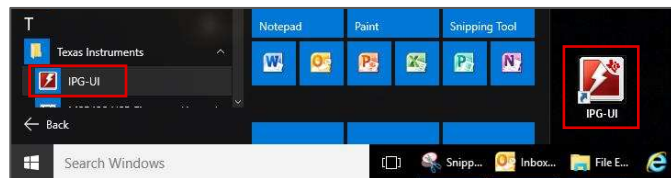

Figure 5. Run the IPG-UI Software
- Run the IPG-UI software by using the Windows *Start Menu* and navigating to the Texas Instruments folder, or by double-clicking the desktop icon, as shown in Figure 5.